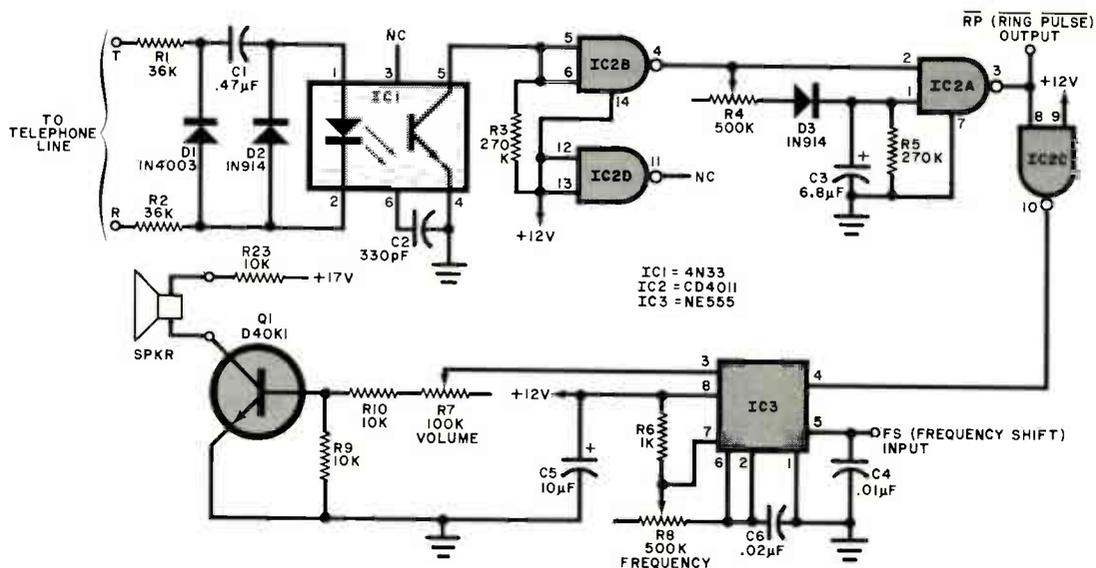

Fig. 1. Schematic diagram of the Electronic Ringer. Optoisolator *IC1* couples ring pulses from the telephone line to the detector circuit.
**About the Circuit.** The schematic diagram of the Electronic Ringer appears in Fig. 1. At the onset of an incoming telephone call, an ac signal is applied between the green (*tip* or *T*) and red (*ring* or *R*) wires of the tele-